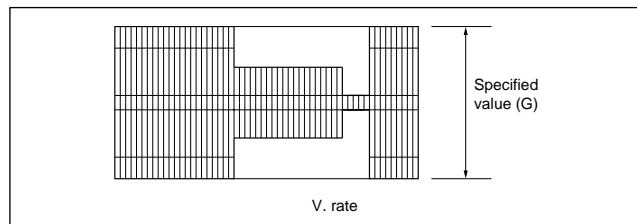

Fig. 3-3-4b REC color (colour) level
- Apply the external trigger signal to D.FF (E) to observe the PB color (colour) waveform at the measuring point (D2).
- Adjust with the channel buttons (+, -) on the VCR (or on the remote controller) so that the higher level channel becomes the specified value (G) of the note "B" level as shown in Fig. 3-3-4b. (Adjust before recording, then confirm it by playing back.)
- Repeat steps (3) to (11) in the mode (B2).